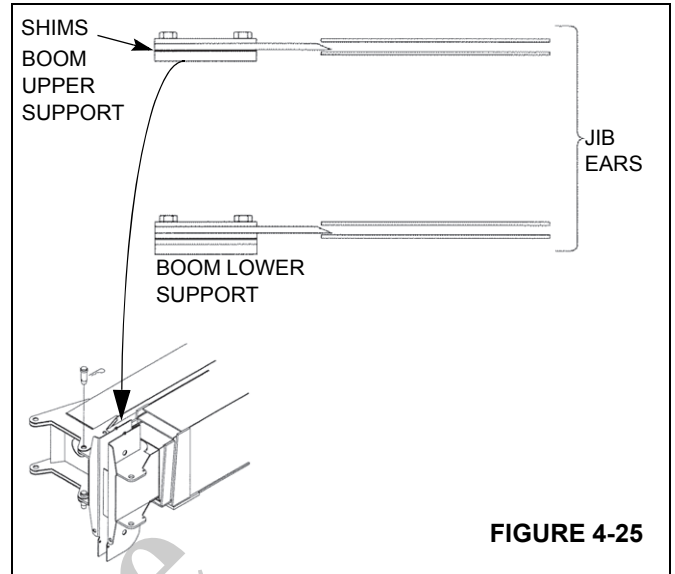

FIGURE 4-25
6. Slowly retract the boom until the jib ears are within 13 mm (0.50 in) of the ear assemblies on the first boom section. Observe the vertical alignment of the jib ears and ear assemblies and add or remove shims until the jib is supported by the jib ears. The jib will typically rest only on the upper support, Figure 4-25.